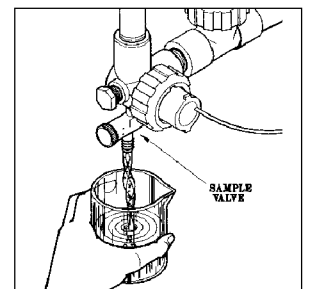

FIGURE 10
3. Obtain a sample of system water and test the sample with a reliable, calibrated tester (see figs. 10 and 11.) Make note of reading.
2. Obtain a sample of system water and test the sample with a reliable, calibrated tester (see figs. 10 and 11, pg. 22). Make a note of the reading.
4. Remove sensor. If required, clean in accordance with instructions on page 48. Dry the stainless steel electrode surface for a value of zero (0) to enter as the “LOW” calibration point in the following steps.
1. Obtain a sample of system water and test the sample with a reliable, calibrated pH tester (see figs. 10 and 11, pg. 22). Make note of reading.